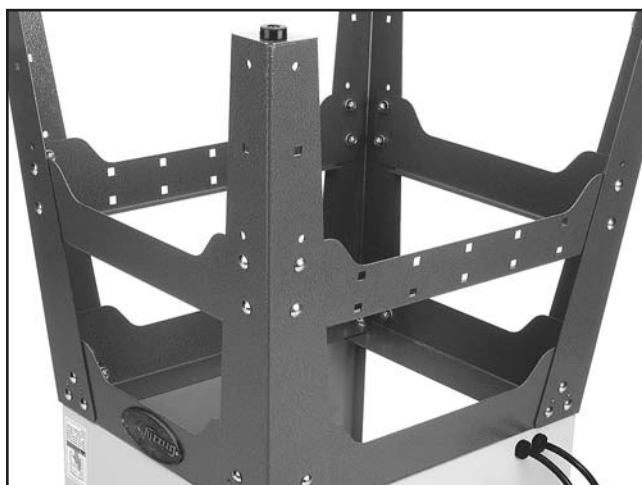

Figure 9. Flat stand support installation.
6. Secure the flat side supports to the stand legs as shown in **Figure 9** with 4 carriage bolts, 4 flat washers, 4 lock washers, and 4 hex nuts per support.